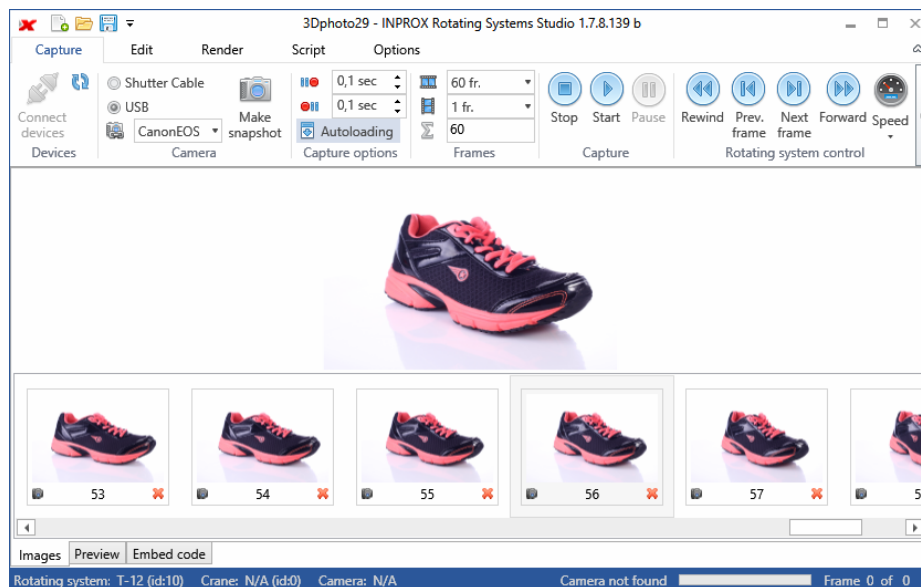

Figure 10.
5. When camera is connected via USB, software automatically loads photos for editing (Fig. 10).